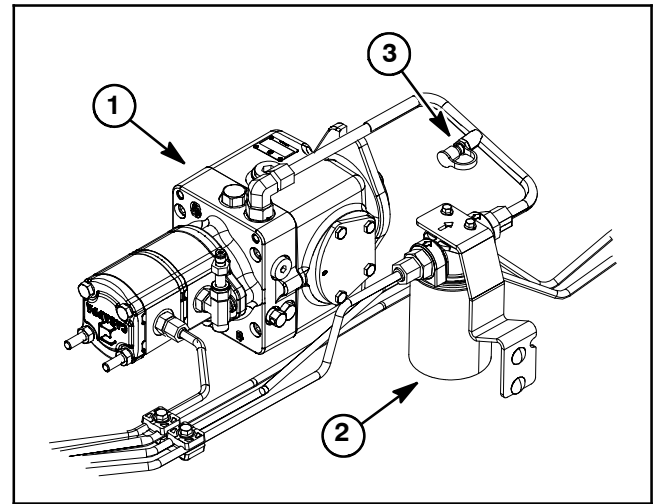

Figure 30
4. Thoroughly clean test port on hydraulic tube between piston (traction) pump and oil filter (Fig. 30). Connect a 1000 PSI (70 bar) pressure gauge to test port.
6. Make sure hydraulic oil is at normal operating temperature by operating the machine under load for approximately ten (10) minutes.